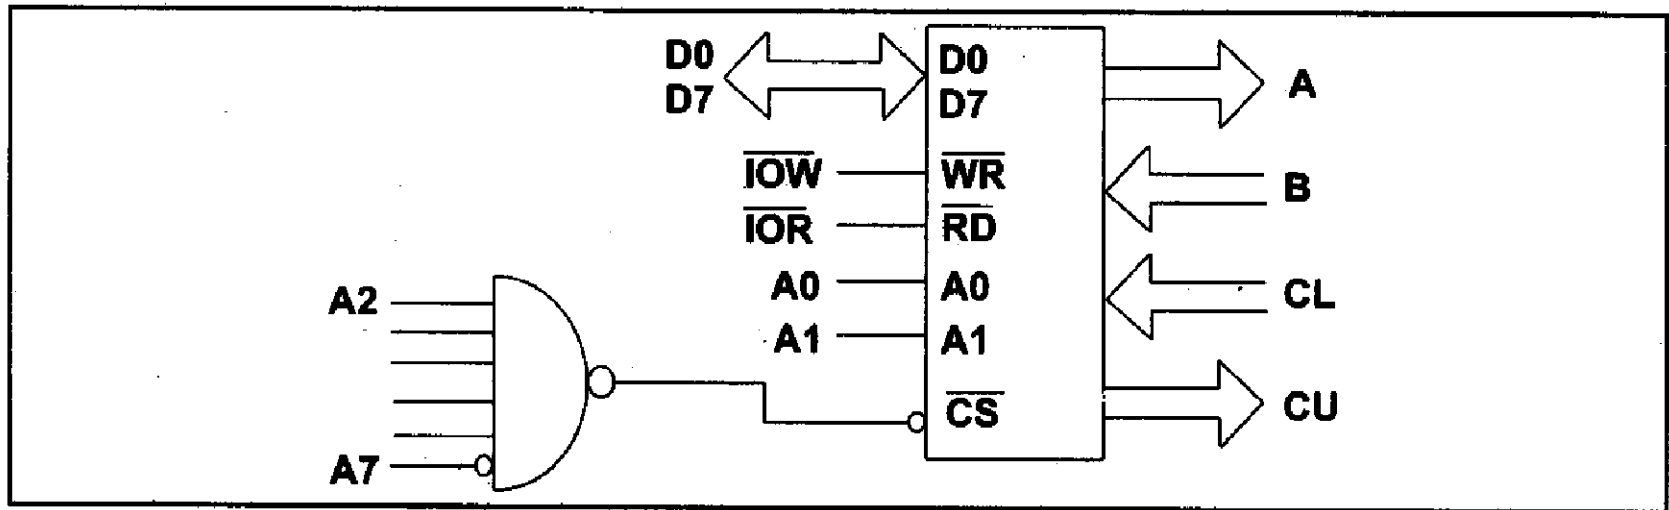

Figure 4-7. Configuration for Example 4-6
- (a) Find the port address for Figure 4-7.